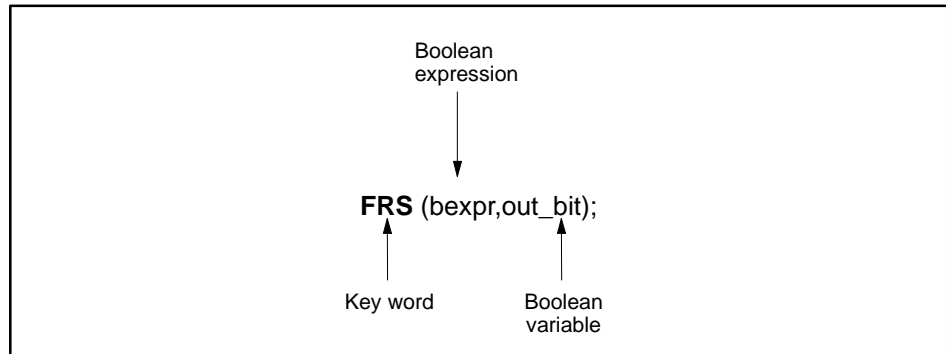

Figure 11-19 FRS Procedure
- OUT_BIT — a boolean value that is turned on after the role swap occurs. See Figure 11-19.